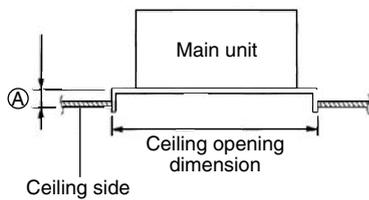

Fig. 9-1
- Never place the panel face-down. Either hang it vertically or place it on top of a projecting object. Placing it face-down will damage the surface. (Fig. 9-1)
Ⓐ must be within the range of 12 – 17 mm. (Fig. 9-1)